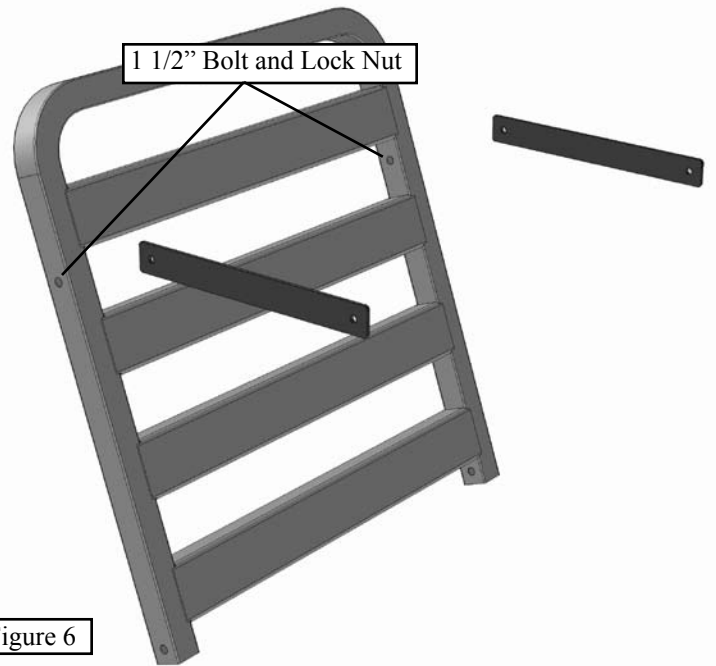

Figure 6
Step 1. Position the platform and the two flat metal Support Bars as shown in **Figure 6**.